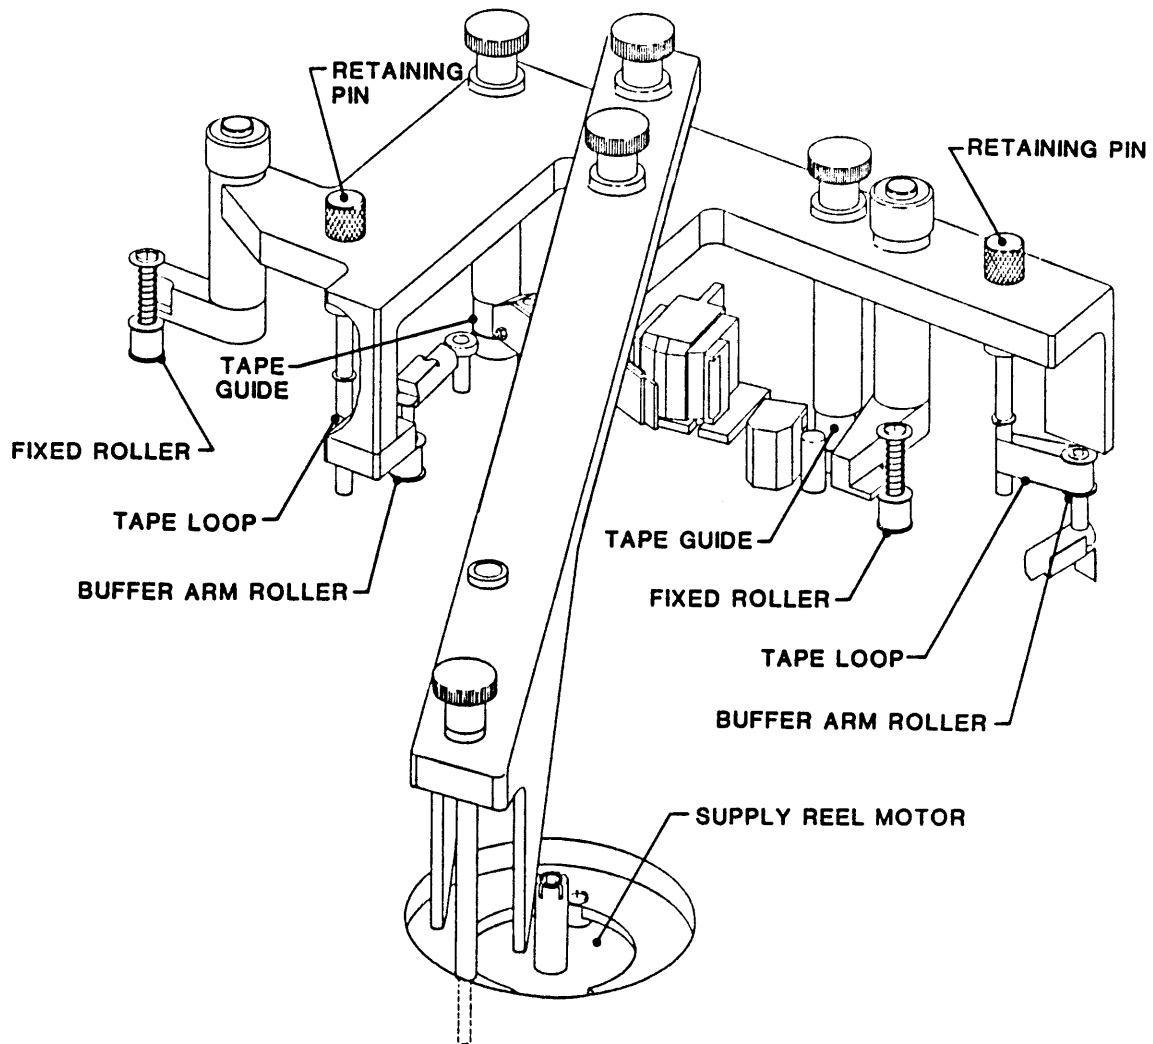

Figure 5-29. Tape Rollers Height Adjustment
5.4.2.1 BUFFER ARM ROLLERS AND FIXED ROLLERS HEIGHT ADJUSTMENT (Fig 5-29)